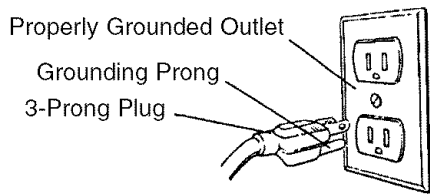

Figure 1 - 3-Prong Receptacle
Refer to Figures 1, 2, and 3, pages 4 and 5.
- This tool is equipped with an approved 3-conductor cord rated at 240V and a 3-prong grounding type plug rated at 125V (Figure 1) for your protection against shock hazards.
- Grounding plug should be plugged directly into a properly installed and grounded 3-prong grounding-type receptacle, as shown (Figure 1).